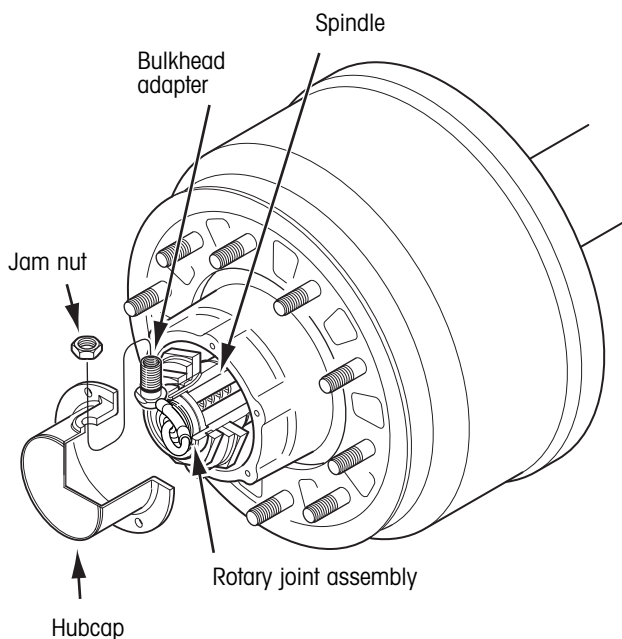

Figure 47. Hubcap to bulkhead adapter removal
1. Remove the jam nut from the rotary joint bulkhead adapter and remove the hubcap (figure 47).